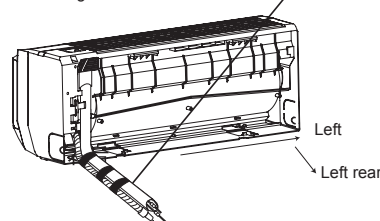

Fig.8
(2) Take out the piping from body case, wrap the piping electric wire, water pipe with tape and pull them through the piping hole (As show in Fig.8)